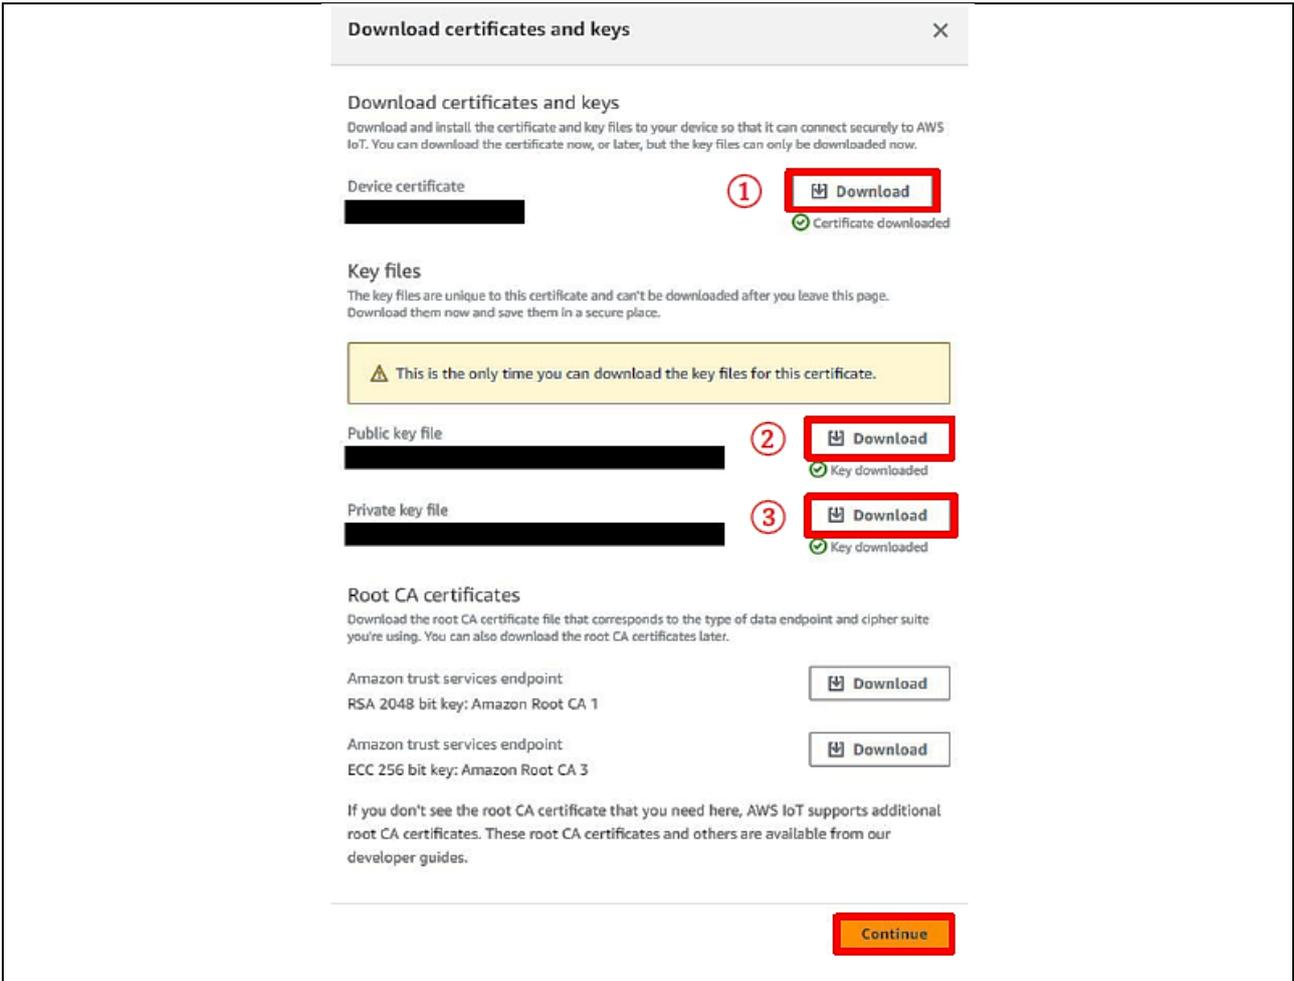

Figure 154. Downloading the Certificate and Key Pair
- 5. Next, storing fleet claim cert ID, claim private key ID that users created at **0**, users downloaded (Figure 154) **Figure 154. Downloading the Certificate and Key Pair**: